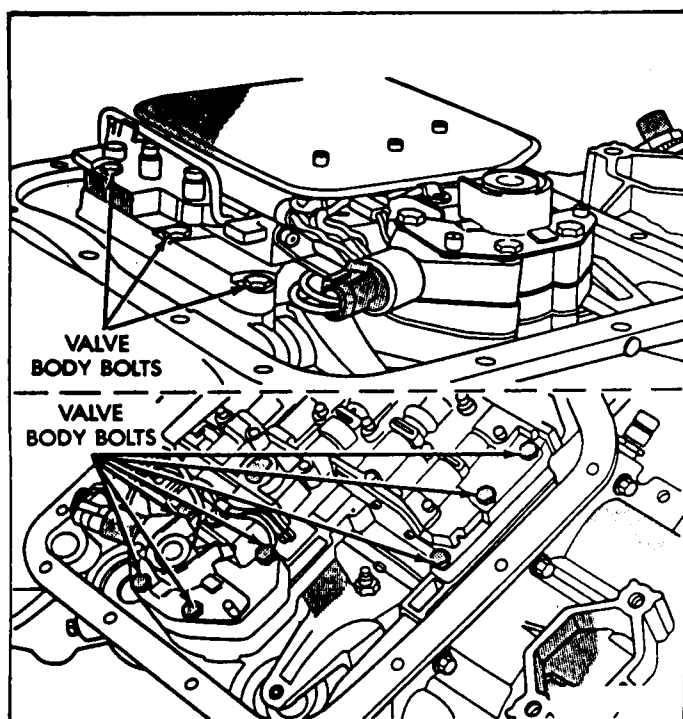

Figure 10
18. Remove ONLY the ten valve body retaining bolts shown in Figure 10. Note the different bolt lengths for reassembly reference.